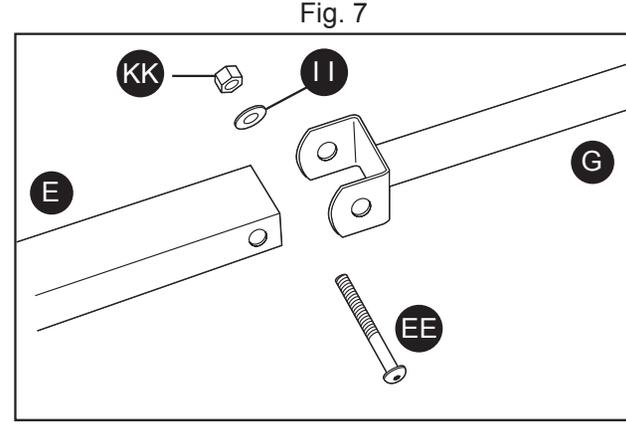

Fig. 7
6. Attach the handle (G) to the yoke using the M8 x 60mm internal button head bolt (EE), M8 lock nut (KK), and M8 washer (II), as shown in Fig. 7.